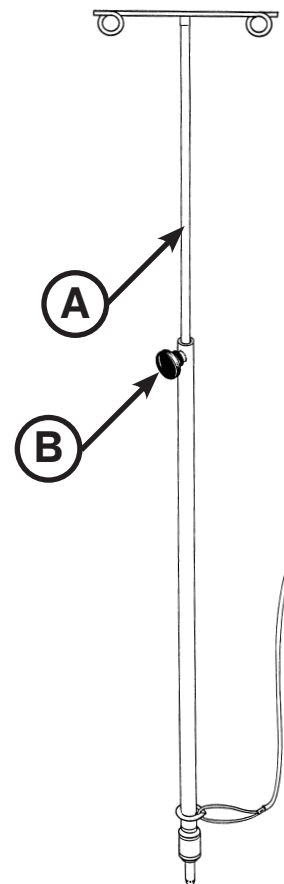

Figure 11.2: Tethered I.V. Pole
2. To raise the height of the pole, turn the knob (B) counterclockwise and pull up on the telescoping portion (A) of the pole to raise it to the desired height as shown in Figure 11.2.
3. Turn the knob (B) clockwise to lock the telescoping portion in place as shown in Figure 11.2.